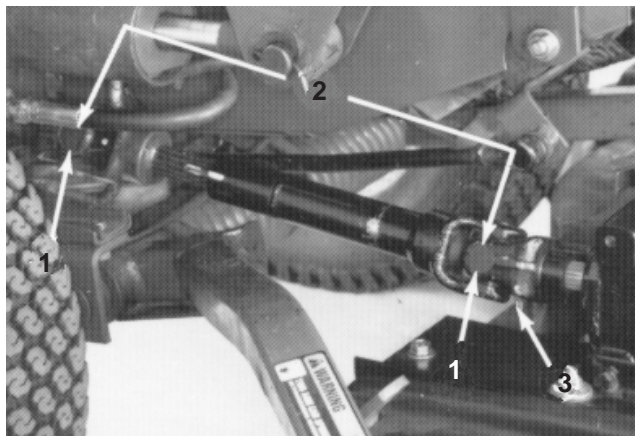

Figure 7
1. Line up the holes in the yoke and input shaft of the gear box. Slide the yoke onto the shaft and secure them together with a roll pin and 2 capscrews (5/16 x 1-3/4 in.) and locknuts (5/16 in.) (Fig. 7).